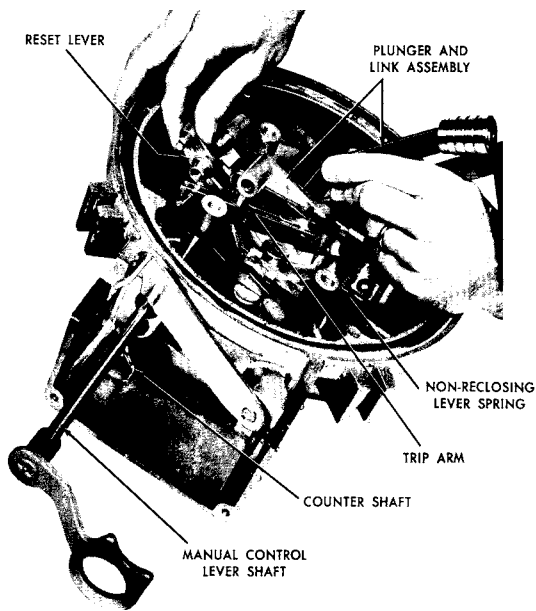

Figure 32. Head assembly
2. Position the reset lever as shown in Figure 32.
3. Position the plunger and link assembly as shown in Figure 32.